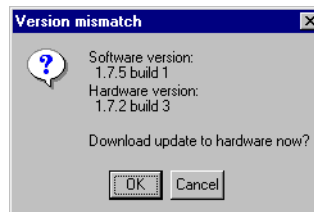

Figure 1-6. Version Mismatch Dialog Box
After you install or update the FlashPro software, a Version Mismatch dialog box may appear, as shown in Figure 1-6, so you can download an update to your FlashPro hardware.
- 1. Click OK as shown in Figure 1-6.**